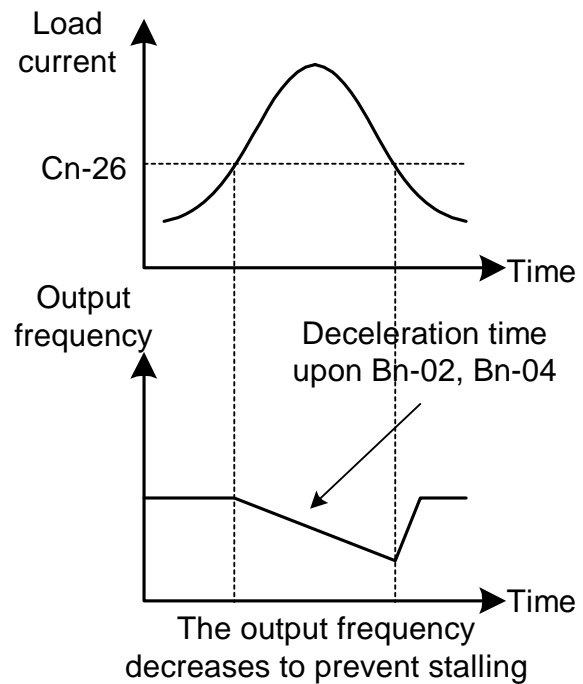

Fig. 22 Run stall prevention function
- Stall Prevention During running : See Fig.22. Deceleration is started if the run stall prevention level Cn-26 is exceeded, especially when an impact load is applied suddenly. Accelerate again when the current level is lower than Cn-26.